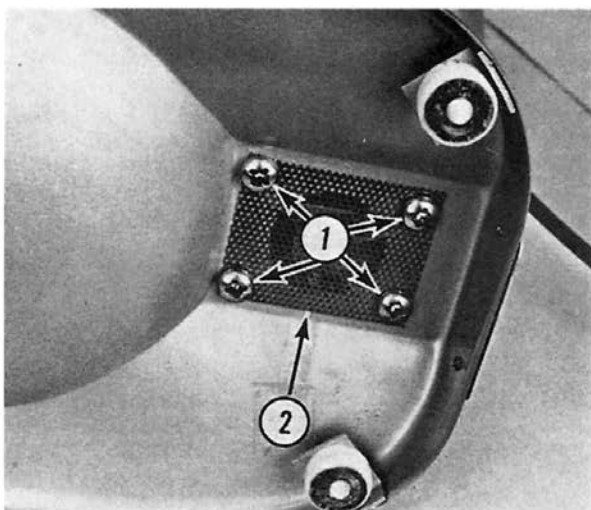

Fig. 5-1
- A. Remove the four screws (1, Fig. 5-1) and lockwashers. Take off the air screen (2, Fig. 5-1). The base can now be removed.